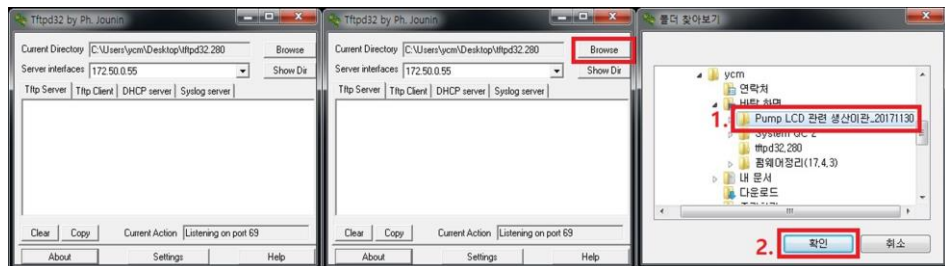

Figure 3. tftpd32 - Directory folder setting
2. Click on the 'Browse' button and select directory folder where the 'ramdisk.gz' and 'zImage' files are saved as shown in Figure 3 (refer to S-1 on page 13).